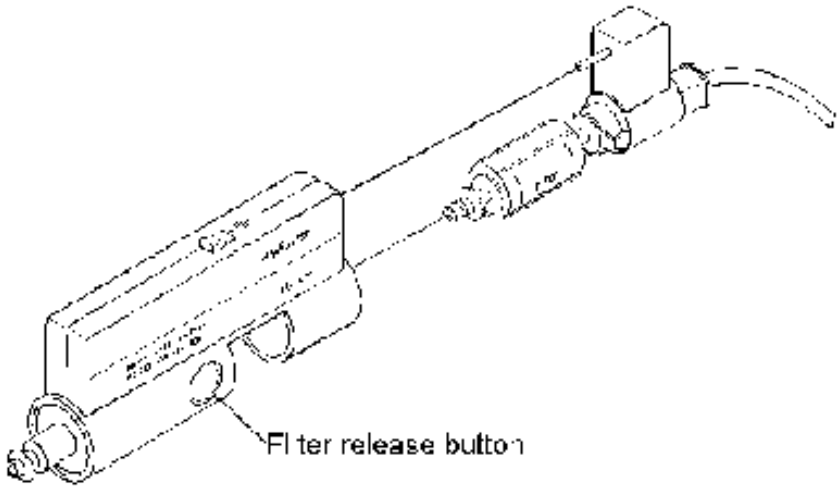

Figure 3. Connecting the Hose and Filter
2. **Connect the hose and filter to the console.** Press the filter release button on the front of the console to lock it down. Push the fitting containing the filter all the way into the opening in the console until it latches with a click. It fits only in the correct orientation. The small plastic fitting on the end of the filter must align with the metal guide coupling in the console. You may have to wiggle the filter slightly while inserting it. See Figure 3. Connecting the Hose and Filter.